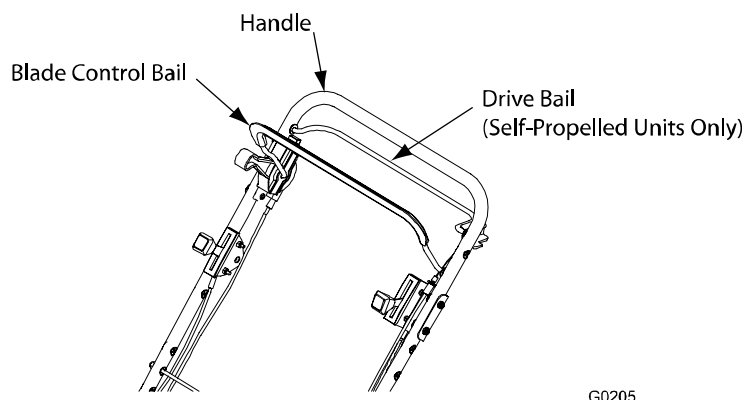

Figure 1
Located on the upper handle as shown in Figure 1. **When the blade control bail is depressed, the system senses that the operator is in the normal operator's position.**
Located on the upper handle as shown in Figure 1. When the self-propel drive bail is squeezed, the unit will move forward at the speed set on the speed control lever. When this bail is released the unit will stop moving.
3. Squeeze the drive bail against the handle (See Figure 1).
2. Squeeze the blade control bail against the handle (Fig. 1).